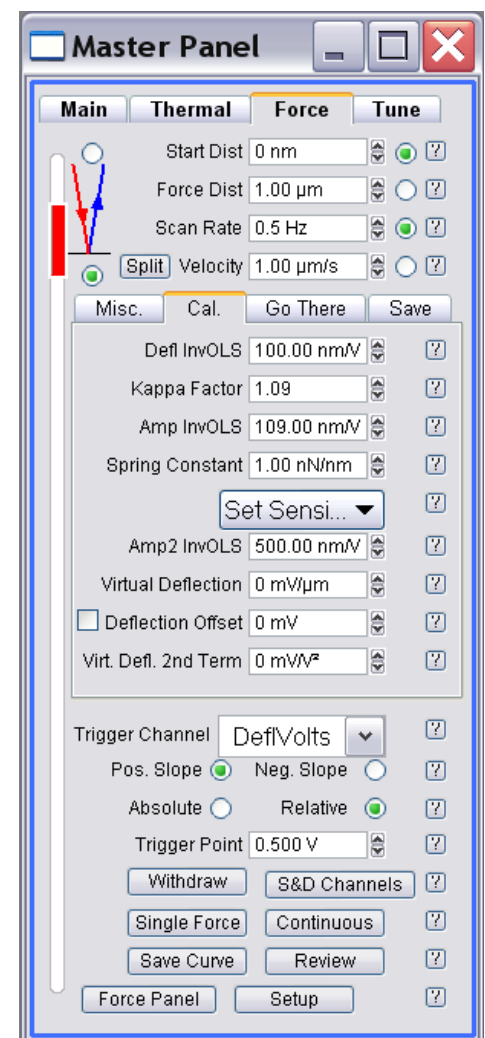

Figure 9.1: Force tab of the master panel with calibration sub-tab shown.
- ✓ Click on the *Force* Tab of the Master Panel (Figure 9.1): This panel is set up so the user can define the specific distance the piezo travels during the force-distance cycle (called 'Force Distance').
Initial Parameter adjustment- set parameters similar to Figure 9.1.
- ✓ Enter a 'trigger' point value of 0.4 to 0.6 V. *Most other parameters in Figure 9.1 are not important at this point.*